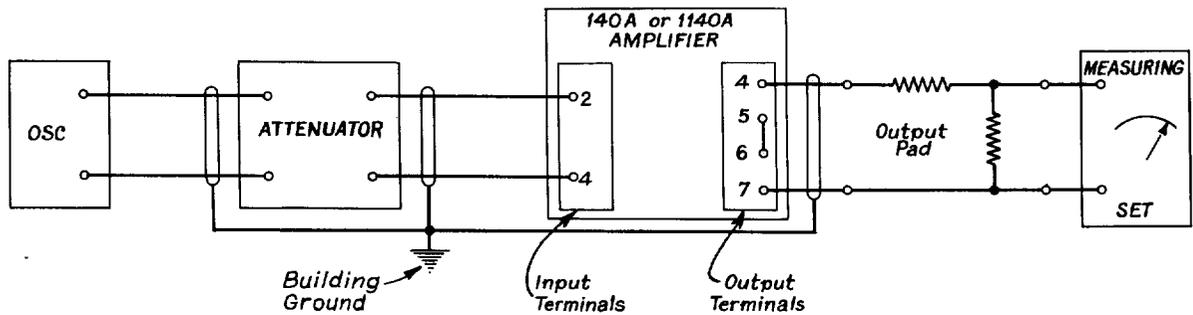

Fig. 2 — 140A Amplifier — Gain and Gain-Frequency Testing Arrangement
**2.11** Set up the testing arrangements indicated in Fig. 2. The 5A Attenuator should be adjusted for 30 db or more loss. The amplifier gain control should be turned fully clockwise. The gain of the amplifier is indicated by the algebraic sum of the attenuator loss, output pad loss and the dial and meter readings on the measuring set.